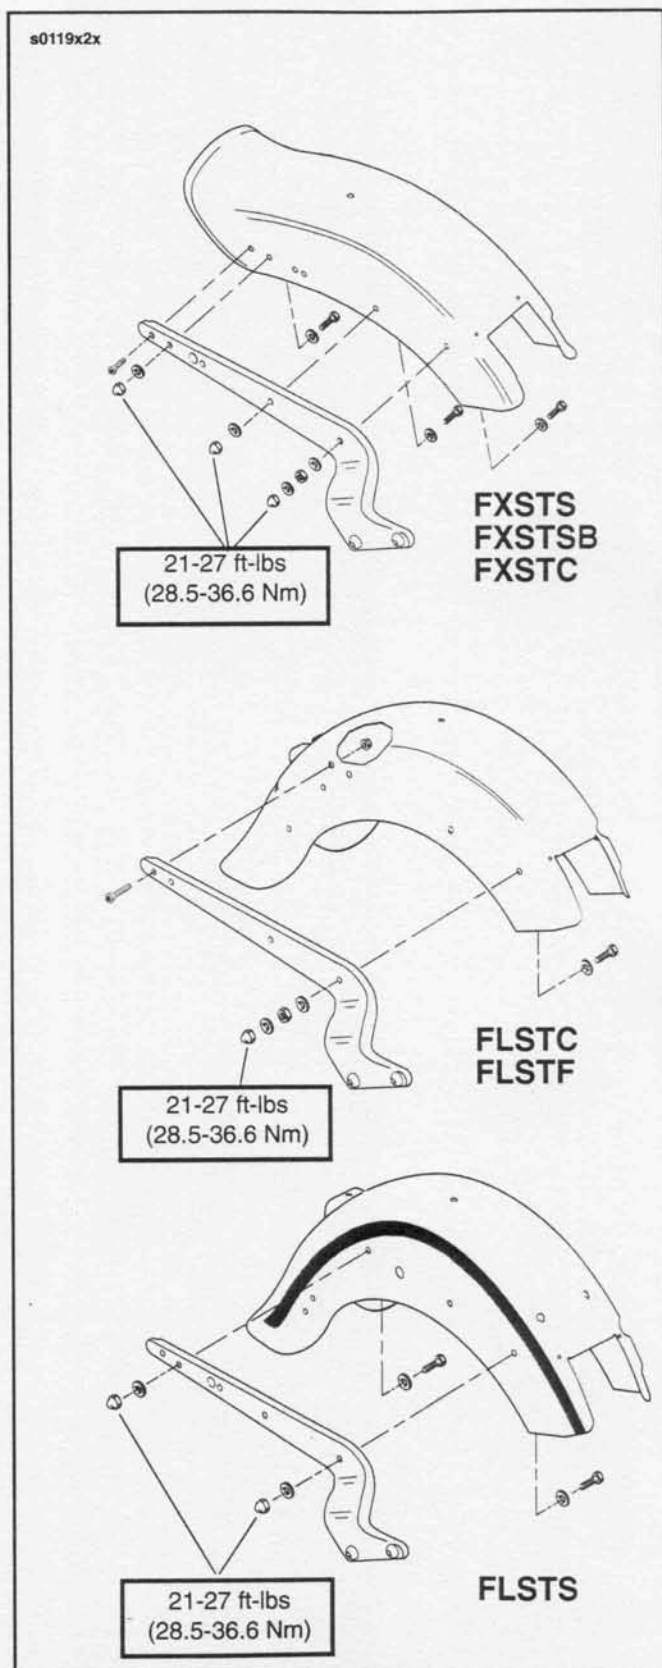

Figure 2-98. Rear Fender
6. See Figure 2-98. Remove the hardware securing the rear fender and carefully remove the fender.
1. Carefully place the fender into position and tighten hardware to torque specifications shown in Figure 2-98.